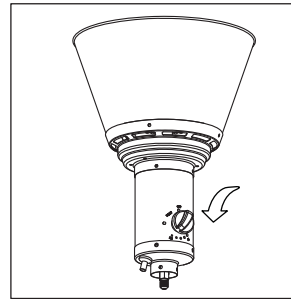

Figure 4
9. Push in and turn the control knob to the "LOW", then release control knob (Figure 4). If you want a higher temperature, push in the control knob and turn counterclockwise to the "HIGH" (Figure 5).